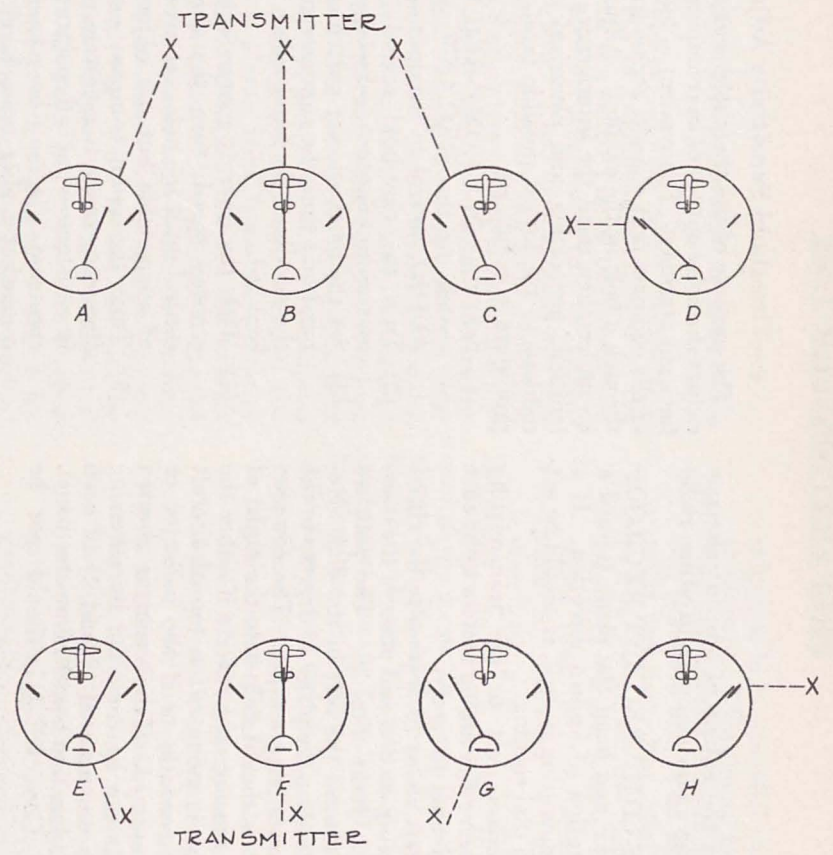

FIG. 26. FUNCTIONAL DIAGRAM—LOOP PICK-UP & INDICATOR DEFLECTION
- (14) Turn the OFF-COMP-REC.ANT-REC.LOOP switch to COMP and head the plane toward a transmitting station of known direction. If a rotatable loop mounting is used, it should be set for a 0 azimuth dial reading.
- (15) Tune the compass unit to the transmitting station and observe the tuning meters to be sure they are functioning properly.
- (16) Swing the aircraft about 15 degrees to the right of the transmitting station and observe the compass indicators. Refer Fig. 26. The pointers should deflect toward the left of the dial. Repeat the test, heading the plane 15 degrees to the left of the transmitting station. The compass indicator pointers should deflect to the right of the dial. The sensing may reverse if either the loop or antenna is mounted on top of aircraft and the other beneath, or if the indicator or loop leads are reversed. If the sensing is reversed to the above it can be corrected by reversing leads from the moving coil (2 and 4) of each indicator at the junction box or connector panel. The leads in Cord CD-311 should not be disturbed.
- (17) With the AUDIO control at maximum, tune through each band with the engines stopped and note the noise level. Repeat the test with the engines running at various speeds. If any appreciable increase in noise is noted with the engines running at any speed, the aircraft shielding and bonding and the battery circuit filtering should be improved.
NOTE:—The accuracy of this radio compass is based on the accuracy of alignment of the axis of the loop (Figure 26) with the center line of the fuselage of the aircraft. An accurate alignment can be accomplished as follows: Select a test spot at least 200 feet and preferably one-half mile distant from buildings, power lines, hills, and other large electrically conductive objects which may distort the radio field. Determine the exact geographical bearing of a high powered, clear channel radio station located approximately fifty miles distant. The accuracy of this bearing should be checked against magnetic bearings and radio compass bearings taken by making a bench set-up of Radio Compass SCR-242-B at this spot. Lay out a line on the apron or ramp which, if extended, would pass through the radio station. Drop plumb bobs from the center of the nose and tail of the aircraft and move the aircraft over the line (flying position with nose headed toward radio station) until the plumb bobs center on the line. Adjust the loops, as described above, until on-course indications are obtained. This setting should be checked by flight test. If loop or antenna is mounted beneath the aircraft the loop will have to be aligned visually and the accuracy of alignment checked by flying the aircraft directly towards the radio station.
The function of the Radio Compass SCR-242-B as a homing device is to indicate visually when the aircraft's heading should be altered to the left or to the right in order to approach or pass over a transmitting station located at the destination or along the line of flight. A small conventionalized figure of an airplane in the upper center of the compass indicator dial is used to indicate "On Course" flight. If this figure is thought of as representing the actual aircraft, then the needle of the indicator may be considered as pointing in the general direction of the transmitting station. Refer to Figure 26.